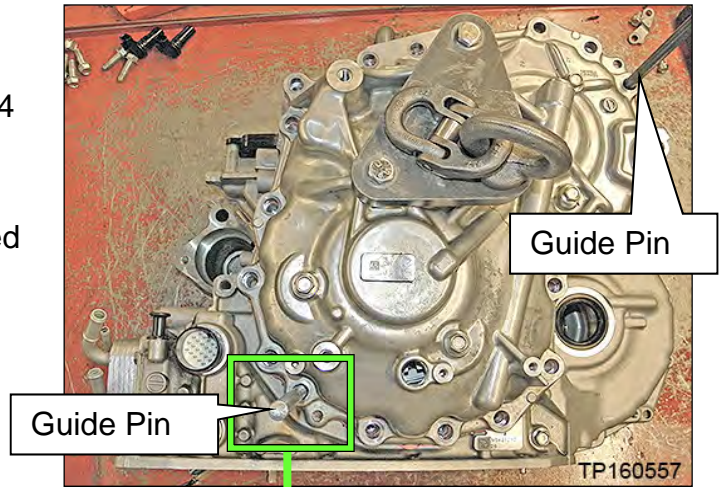
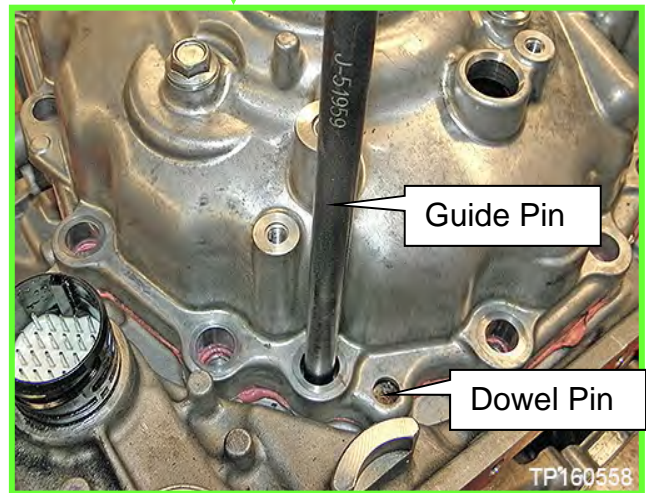

Figure 84
Figure 85
59. Install the two (2) alignment Guide Pins (J-51959) as shown in Figure 84 and Figure 85.
- Guide Pins must be placed next to the dowel pins (Figure 85).